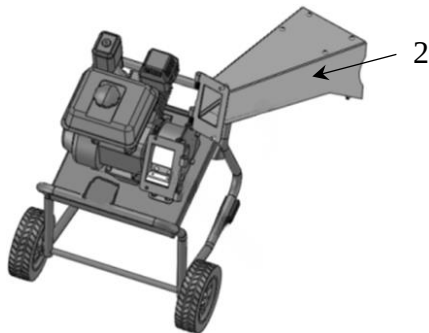

Fig. 4
- Attach the hopper to the pivot joints. Refer to Fig. 4.